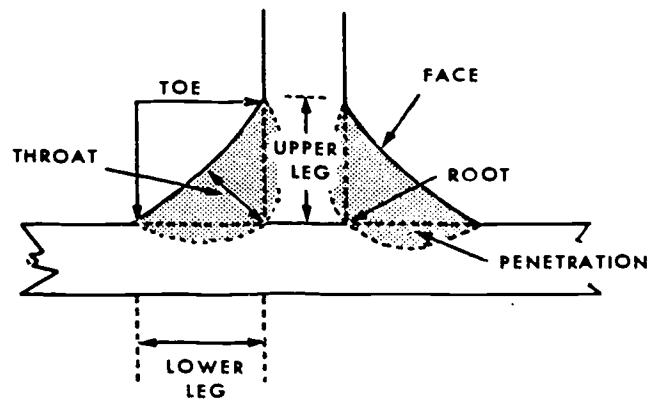

Figure 3-21. Tee joint nomenclature.
**Weld requirements for tee joints.** The requirements for tee joints are expressed by nomenclature, as shown in figure 3-21. Regardless of whether stringer or weave beads are used in making a tee joint, the size of the weld remains the same. The size of a fillet weld is expressed in terms of the length of the legs of the largest isosceles triangle which can be described in the weld cross section, as shown by the hidden object lines in figure 3-22. The length of the legs and the thickness of the throat are based on the thickness of the base metal, as shown in figure 3-22.